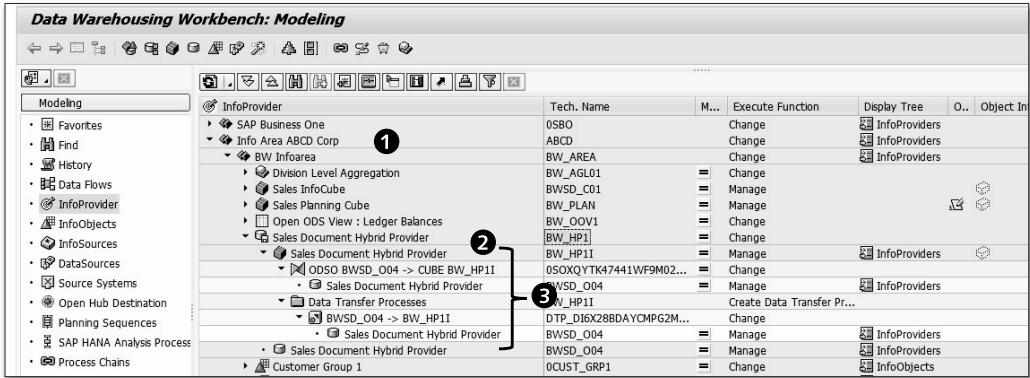

Figure 6.65 Created HybridProvider
Click on the ACTIVATE icon to activate the HybridProvider. You can view the created HybridProvider using Transaction RSA1, as shown in Figure 6.65.
The newly created HybridProvider BW_HP1 ❷ of Figure 6.65 is shown under the InfoArea BW_INFOAREA ❶. At the time of activating HybridProvider BW_HP1, the system also generated the associated transformation and DTP between DSO BWSD_O04 and InfoCube BW_HP11 ❸. The HybridProvider with direct access can be created following a similar procedure.